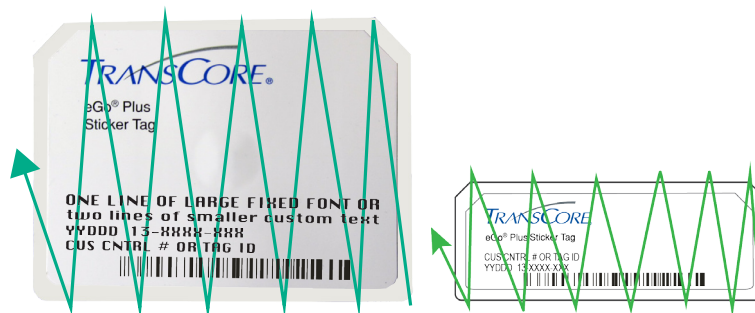
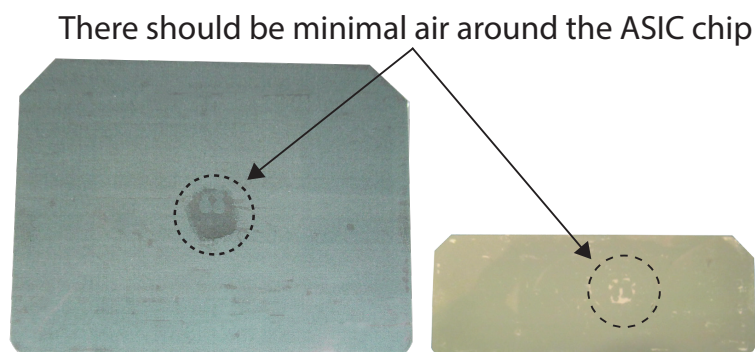

Figure 4 – Remove Air From Around Tag Chip
Figure 5 – Example of a properly installed mini tag
4. Adhere the tag to the glass by rubbing your thumb up and down in a zigzag motion across the entire tag surface (Figure 4). Be sure to rub over the tag's chip to remove as much air as possible.
5. Step outside of your vehicle and look at the tag through the windshield. There should be minimal air around the ASIC chip. If there is air around the chip, rub the tag again as shown in Figure 4. Refer to Figure 5 for examples of properly installed tags.